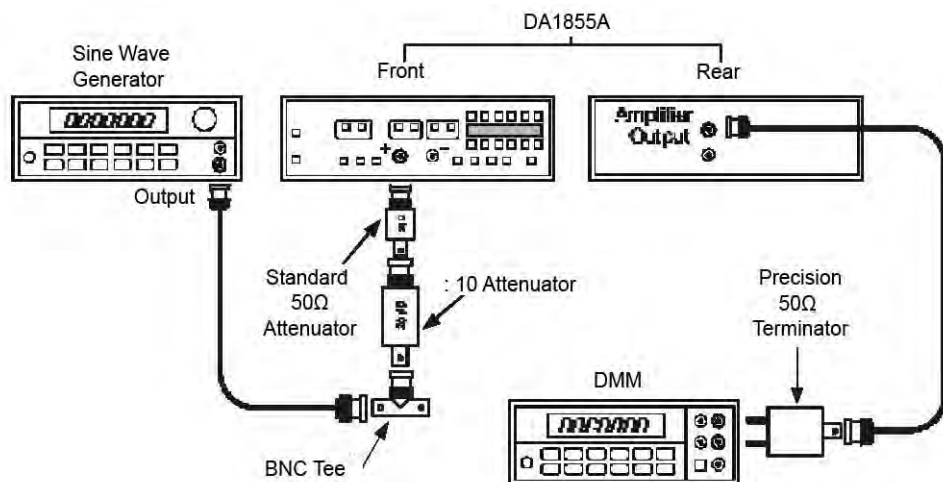

Figure 13, X10 Gain Accuracy Test Setup 4.
20. Insert the precision 50 Ω termination between the other end of this cable and the input of the DMM. See Figure 13.